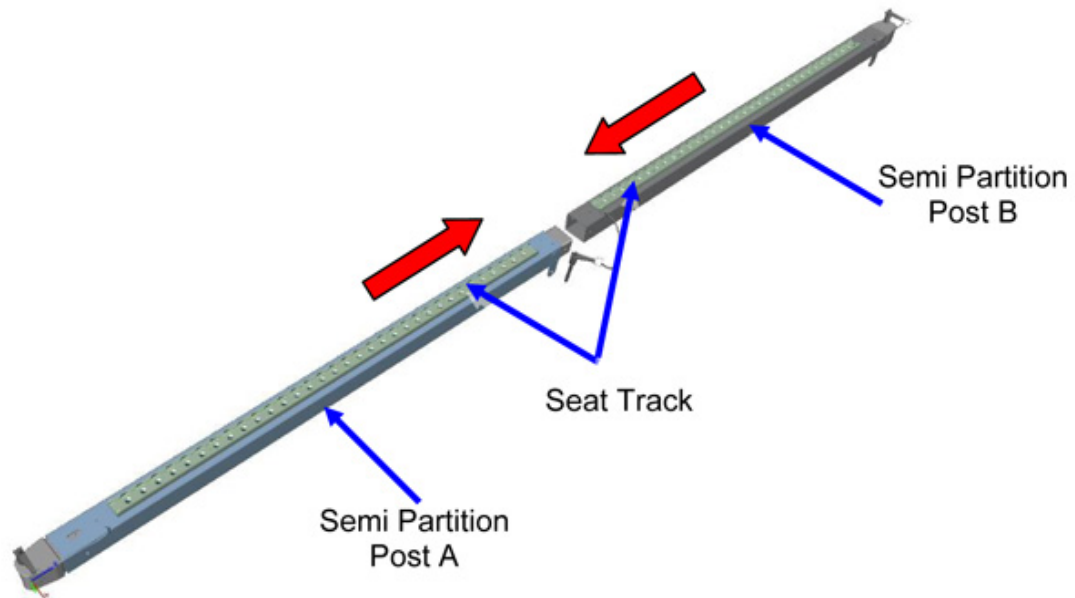

Figure 2-2 Assembly of the two semi Partition Posts
2. When unfolded the Partition Post is divided in two semi Partition Posts. Refer to Figure 2-2.
- 2.2 Insert semi Partition Post A in semi Partition Post B, then secure with central quick release pin. Refer to Figure 2-2.